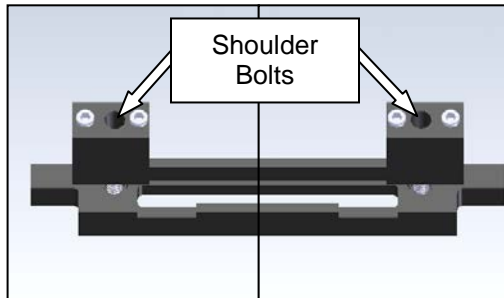

Figure 3-319. Stripper Plate Mounting
10. With the stripper plate assembly completely free of the machine, remove the two shoulder bolts that hold the stripper plate to the spring blocks. Each bolt has a nylon washer between the spring and the block. Do not misplace these washers, as they are needed during reinstallation (Figure 3-319).